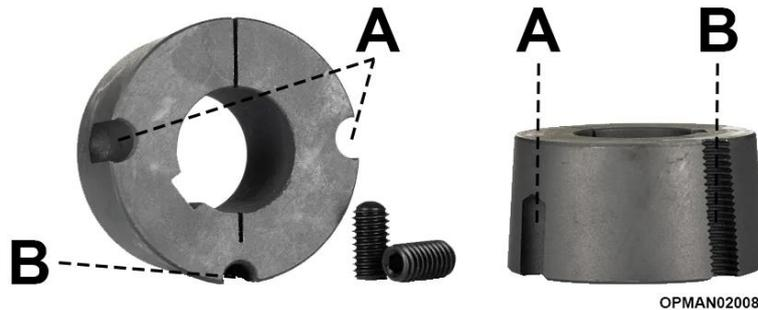

Figure 5.19
5.7.4.3 With reference to Figure 5.19, select one of the pulleys and loosen both of the grub screws (A) using a suitable allen key from the pulley clamping element.